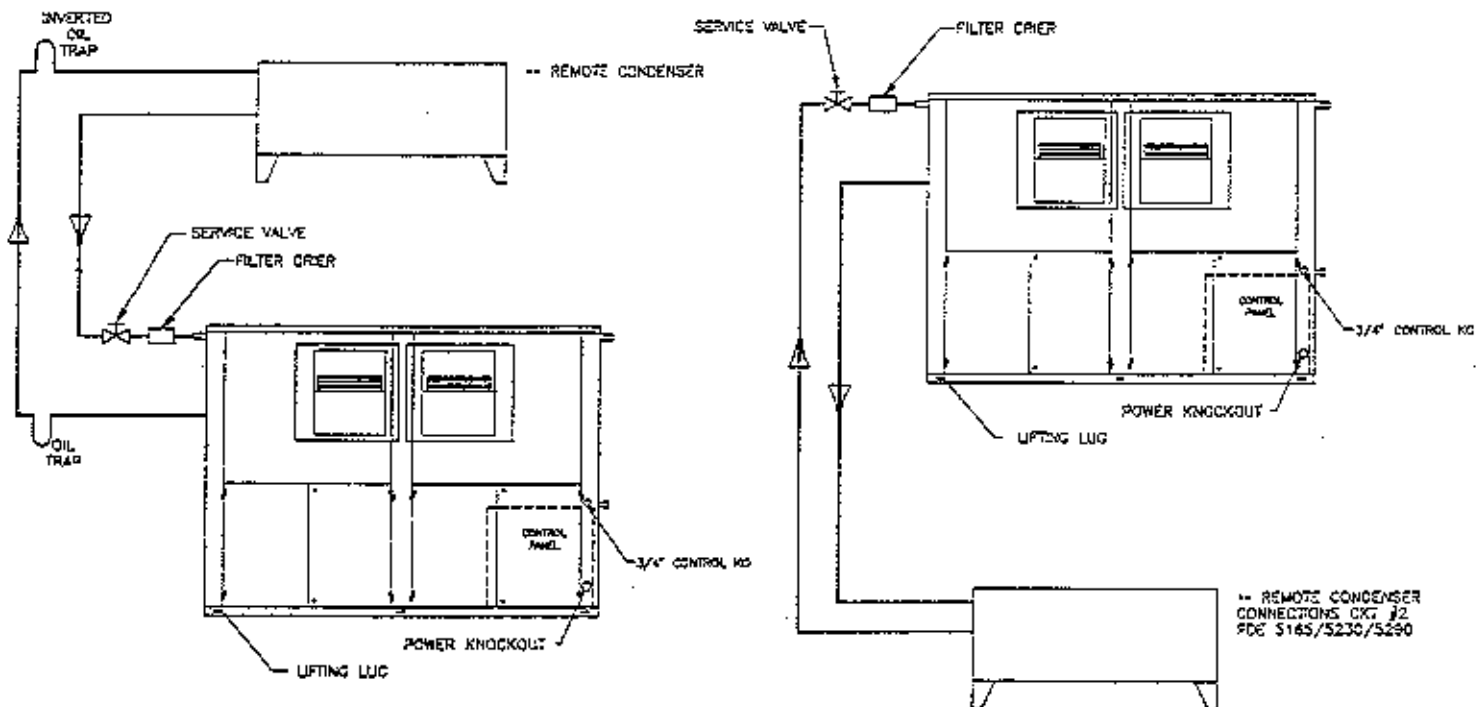

Figure 4
Refrigerant piping is only necessary on split system PDE Units or when remote condensers are installed. Refrigerant piping is provided by the installing contractor. Referring to Figures 4 (Pages 9), pipe air cooled condenser or split system according to proven refrigeration practices.
3. Install an oil trap at the base of all hot gas risers. An additional trap is required for every 8.0 feet of rise. (See Figure 4 below.)